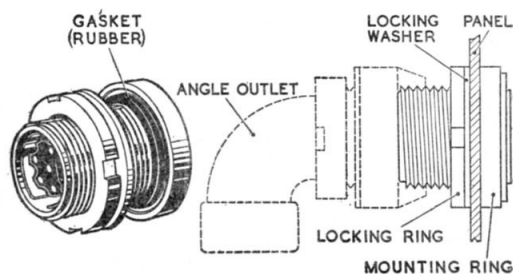

Fig. 2. Typical socket (fixed)
5. In Table 2 is listed the complete range of fixed plugs and sockets. The fixed member of each unit is mounted on the equipment itself and is secured to the panel by a locking nut and washer. It is so designed that it may be mounted from either the front or rear of the panel; that in fig. 2 is mounted from the rear, but when mounted from the front the positions of the mounting ring, locking ring and locking washer are reversed, so that the mounting ring always remains on the side of the panel from which the unit was mounted.